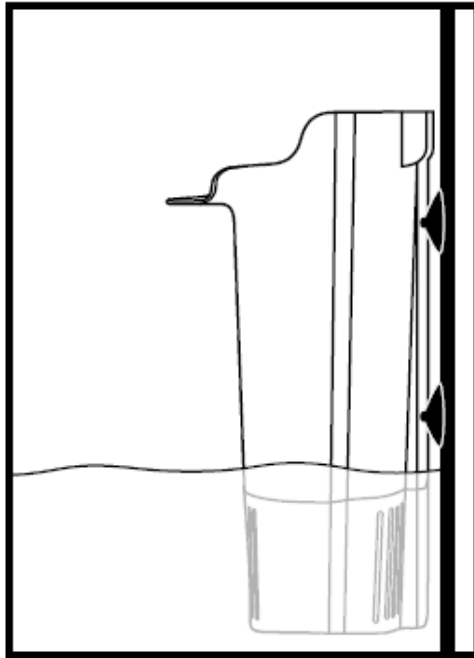

Fig. 5
4. See diagram for positioning and max and min water levels. To adjust the height of your filter, simply slide the filter up or down along the hanger track. If you can't position the filter to your desired water level, you may need to order suction cups (see spare parts list to order). For low water level terrariums, you may set the filter on a ledge or aquarium bottom (Fig. 5).